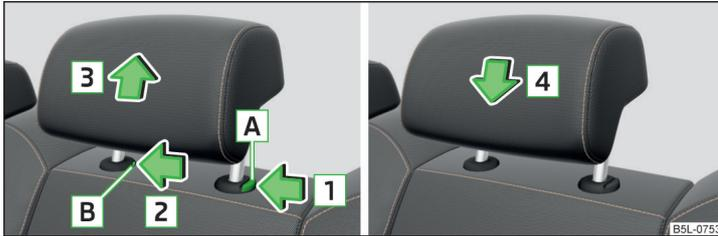

Fig. 66 Rear center head restraint: remove / Install
- Press the locking button **A** in the direction of arrow **1** » Fig. 66, while at the same time using a flat screwdriver with a max. width of 5 mm to press the securing button in opening **B** in the direction of arrow **2**.